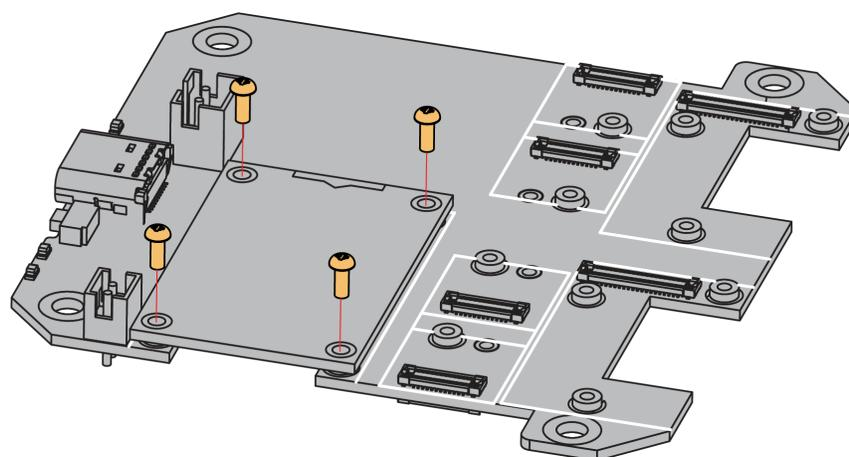

Figure 18: Removing screws from the WisBlock module
1. The procedure to disassemble any type of WisBlock module is the same. As shown in **Figure 18**, first, remove the screws.